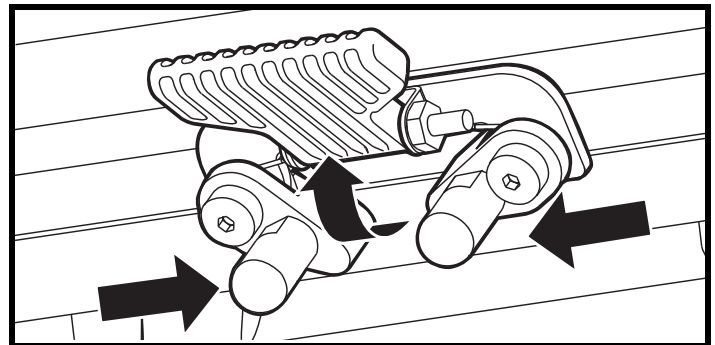

Figure 14. Seat Latch Safety (Disengaged)
3. Flip up the seat latch safety. See figure 14.